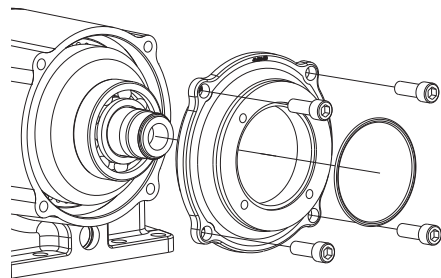

Figure 3 – Output Cover Removal
5. Remove the output cover (22) by removing the O-Ring (25) and the four socket capscrews (23) using a  $\frac{1}{4}$ " Allen wrench. *See Figure 3*